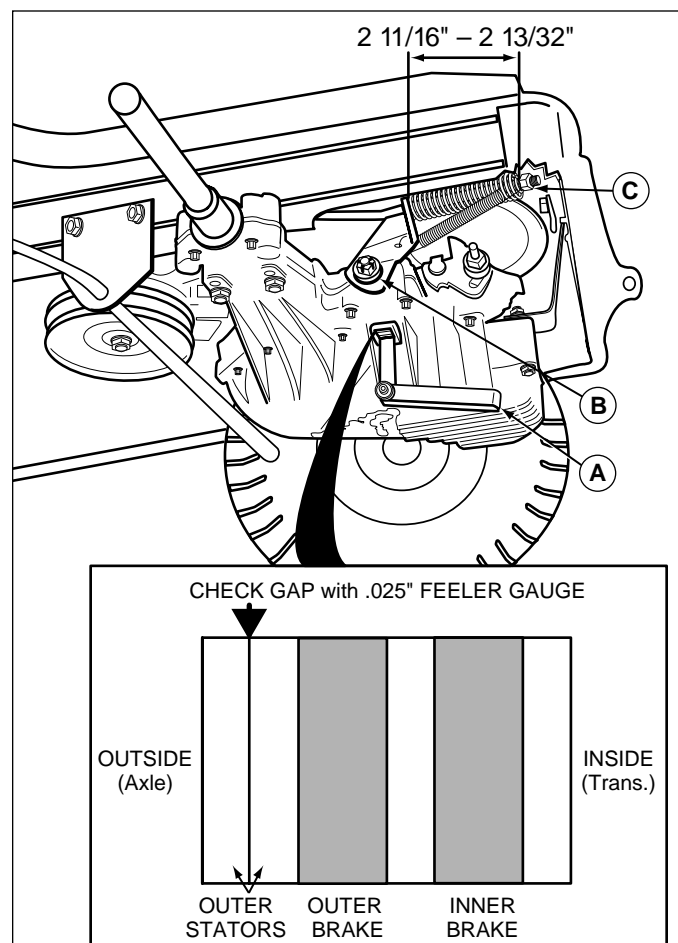

Figure 25. Brake Adjustment (Hydro Model)
2. Place a .025" feeler gauge (A, figure 25) between the two outer brake stators (refer to inset illustration). The gap should be between .025"–.030". To adjust:
- b. To **decrease** gap, hold feeler gauge in gap and turn nut (B) clockwise until resistance is felt on the feeler gauge. To **increase** gap, turn nut (B) counter-clockwise and recheck gap.
3. Set the parking brake. Loosen or tighten adjustment nut (C) to achieve a 2 11/16"–2 13/32" compressed spring length as shown in figure 25.